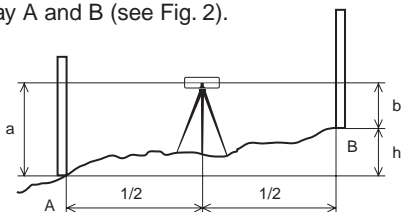

Fig. 2
- ① Set up and level the instrument about halfway between two points, say A and B (see Fig. 2).